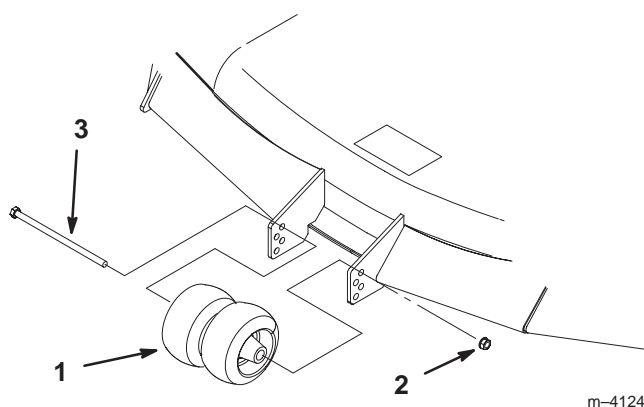

Figure 13
2. After adjusting height-of-cut, remove bolt and flange nut (Fig. 13).
3. Select hole so gage wheel is positioned to the nearest corresponding height-of-cut desired (Fig. 13).
4. Reinstall the bolt, center rollers and flange nut. Torque to 40–45 ft–lbs. (54.2–61.0 N•m) (Fig. 13).